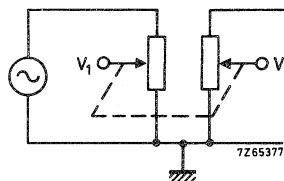

Fig. 12 Crosstalk =  $20 \log \frac{V_2}{V_1}$ .
**Crosstalk\* (measured according to Fig. 12)**